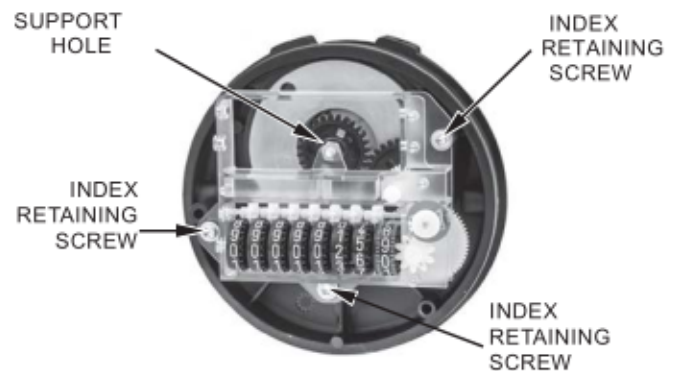

Figure 13. Index retaining screws
5. Remove the three index retaining screws using a T20 driver [Figure 13]
- Carefully ensure the shaft on the magnet holder is in the support hole on the index frame [Figure 13].